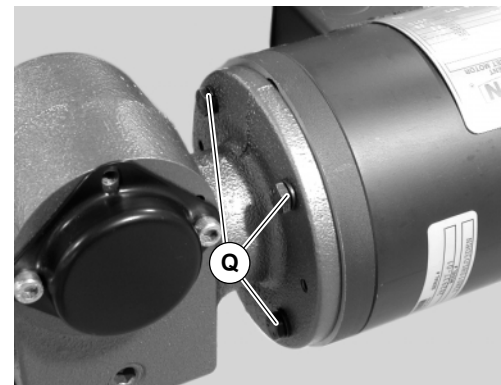

Figure 15
10. Install screws (Q of Figure 15) and tighten to 65 in-lbs (7.3N-m).